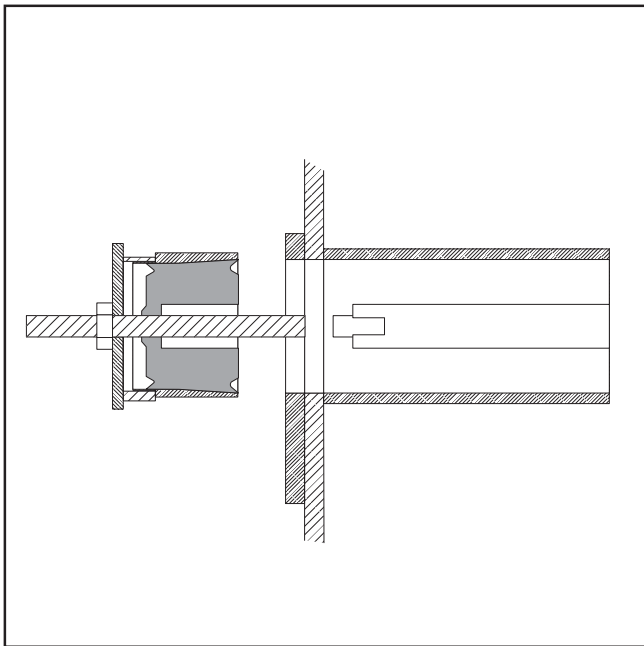

FIG.45
- Remove the piston with the guide ring (FIG.45).